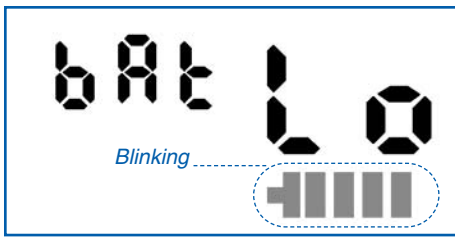

Fig. 9: Low Battery Error Display
(Fig. 9)
- The **BAT LO** message will show when the battery condition is very low. (Fig 9.)